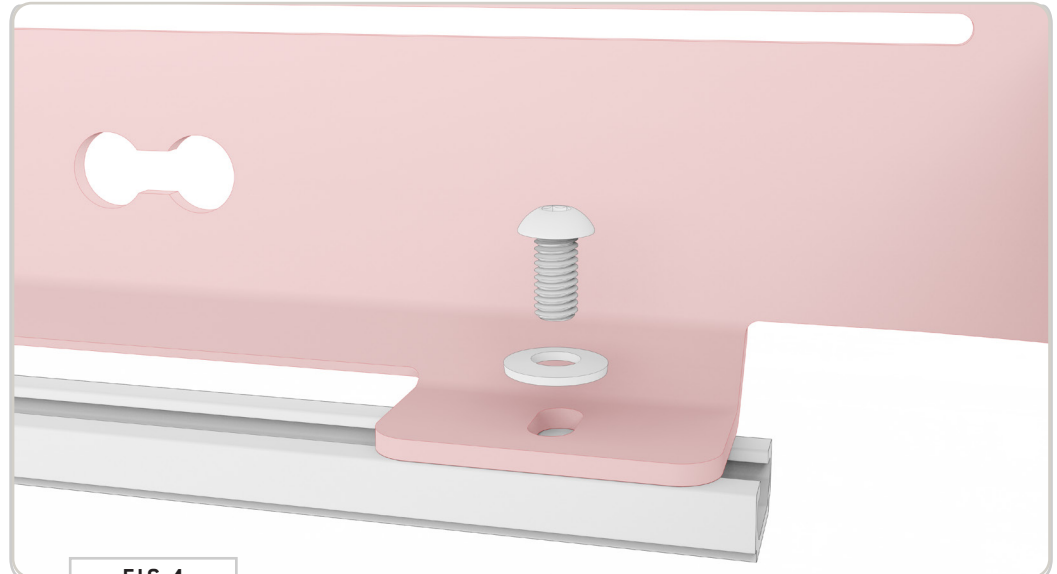
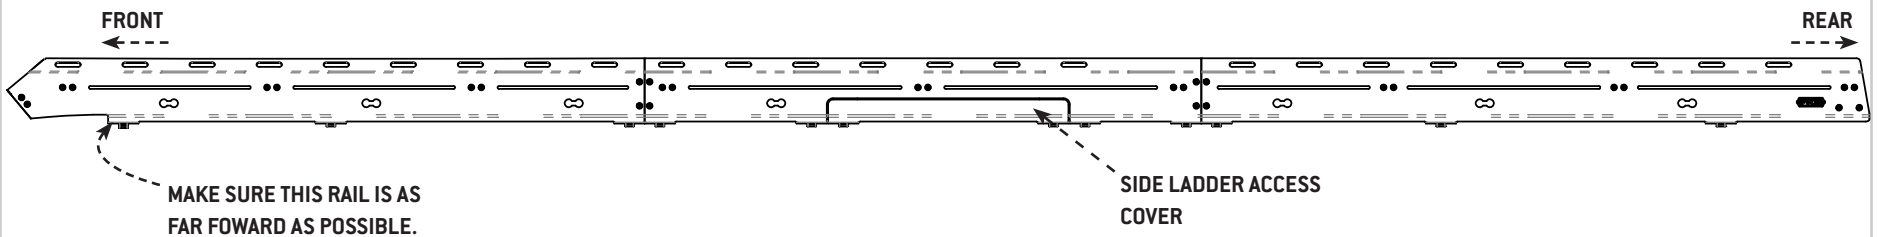

FIG 4
FIG 5
2.1 Install Side Rails: Beginning with the forward section of the rack (see FIG 5 for layout), start loosely attaching the side rails to the roof rails using the **3/8-16" Button Head Screws & 3/8" Lock Washers**, but do not tighten them all the way down yet (FIG 4). If you are not installing a **Side Ladder** at this time, install the **Side Ladder Access Cover** in the location shown in FIG 5.